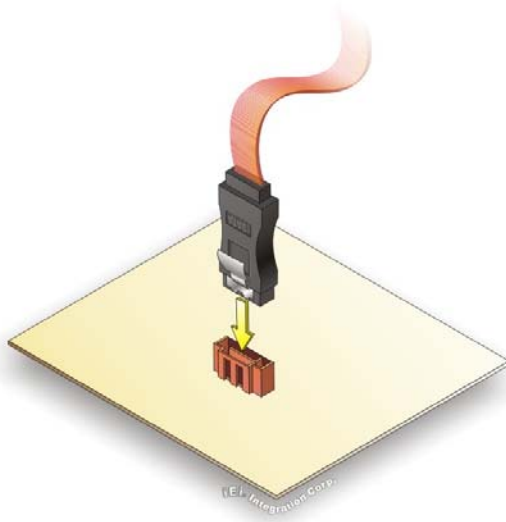

Figure 4-11: SATA Drive Cable Connection
Step 2: **Insert the cable connector.** Press the clip on the connector at the end of the SATA cable and insert the cable connector into the on-board SATA drive connector. See **Figure 4-11**.